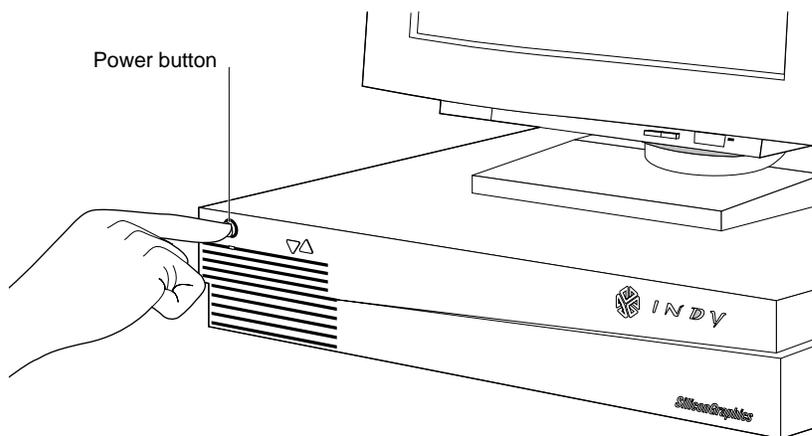

Figure 1-1 Shutting down the system
- Figure 1-1** Shutting down the system 4
1. Press and release the power button on the front of the workstation, as shown in Figure 1-1, to power off the system. Note that it's not necessary to shut down the system software before pressing the power button.